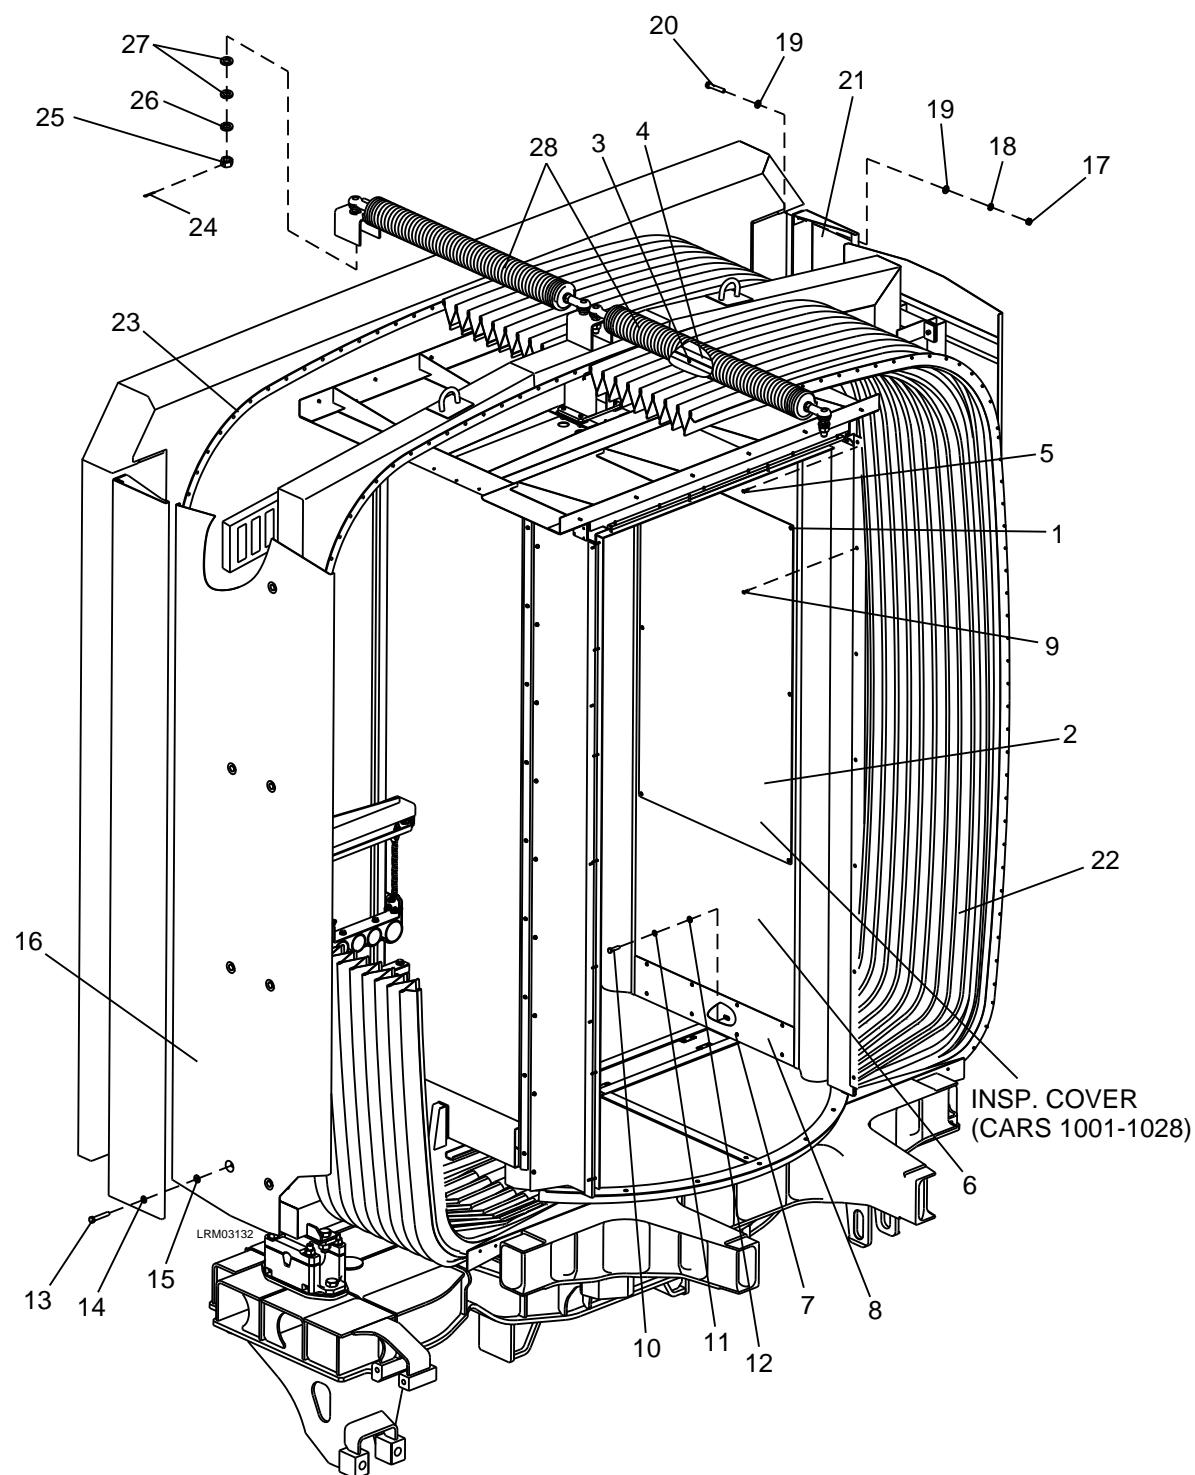

Figure 7-133: Side and External Panels
1. Remove the eight M4 x 12 oval head screws (1) from the inspection cover (2). See Figure 7-133.
2. Remove the inspection cover (2).
3. Remove the three M4 x 16 oval head screws (3) from the top trim (4).
4. Remove the top trim (4).
5. Remove the four M4 x 16 flat head screws (5) from the Side Panel (6).
6. Remove the eight M4 x 12 oval head screws (7) from the bottom trim (8).
7. Remove the bottom trim (8).
8. Remove the ten M4 x 20 flat head screws (9) from the Side Panel (6).
1. Remove the eight M10 x 60 bolts (13), M10 lock washers (14) and M10 plain washers (15) from the External Panel (16). See Figure 7-133.
2. Remove the External Panel (16).
3. Remove the eight M6 nuts (17), eight M6 lock washers (18), sixteen M6 plain washers (19) and eight M6 x 25 bolts (20) from the external cover (21).
4. Remove the external cover (21).
5. Repeat steps 1 through 4 for the three remaining external covers (21).
1. Rotate the two turnbuckles (11) to loosen the Bellows (22). See Figures 7-133 and 7-134.
2. Remove the Bellows (22) from the bellows frame (23). See Figure 7-133.
3. Repeat steps 1 and 2 for the remaining Bellows (22).
1. Remove the two split pins (24), two M16 nuts (25), two M16 lock washers (26) and four M16 plain washers (27) from the Balancing Device (28). See Figure 7-133.
2. Remove the Balancing Device (28).